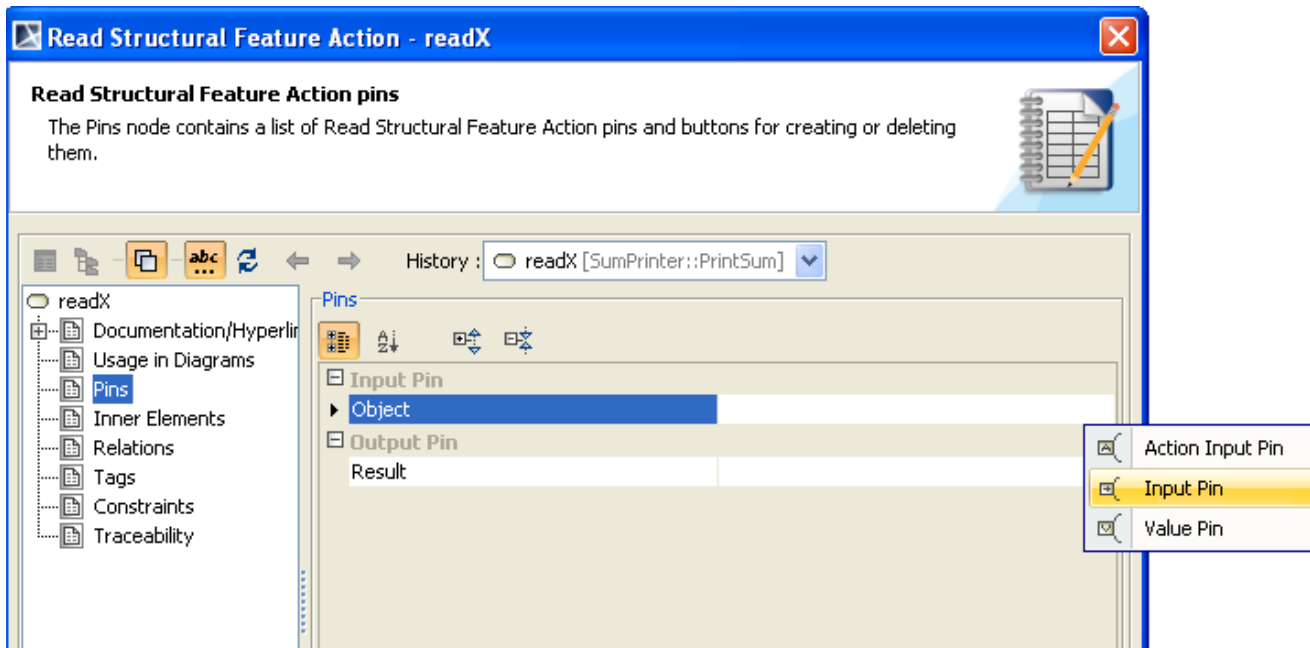
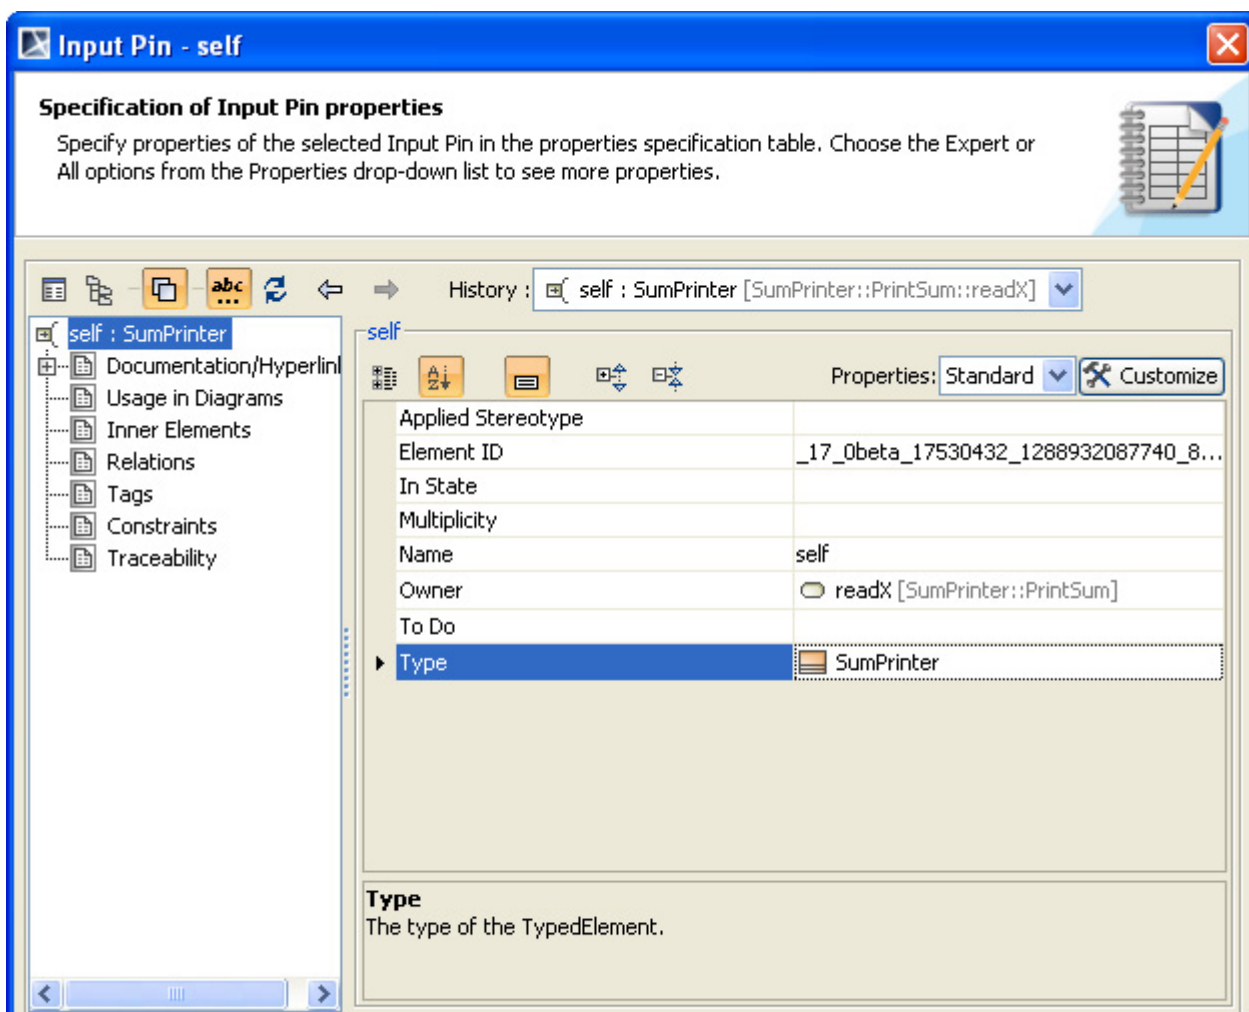

Figure 60 -- Add new input pin to readX action
Figure 61 -- Naming the Input Pin and Selecting Its Type
- (i) Click the **Object** button and select **Input Pin** from the context menu (Figure 60). A new input pin will be added to the action. Name this pin "self" and select **SumPrinter** as its type, and then click the **Back** button (Figure 61).